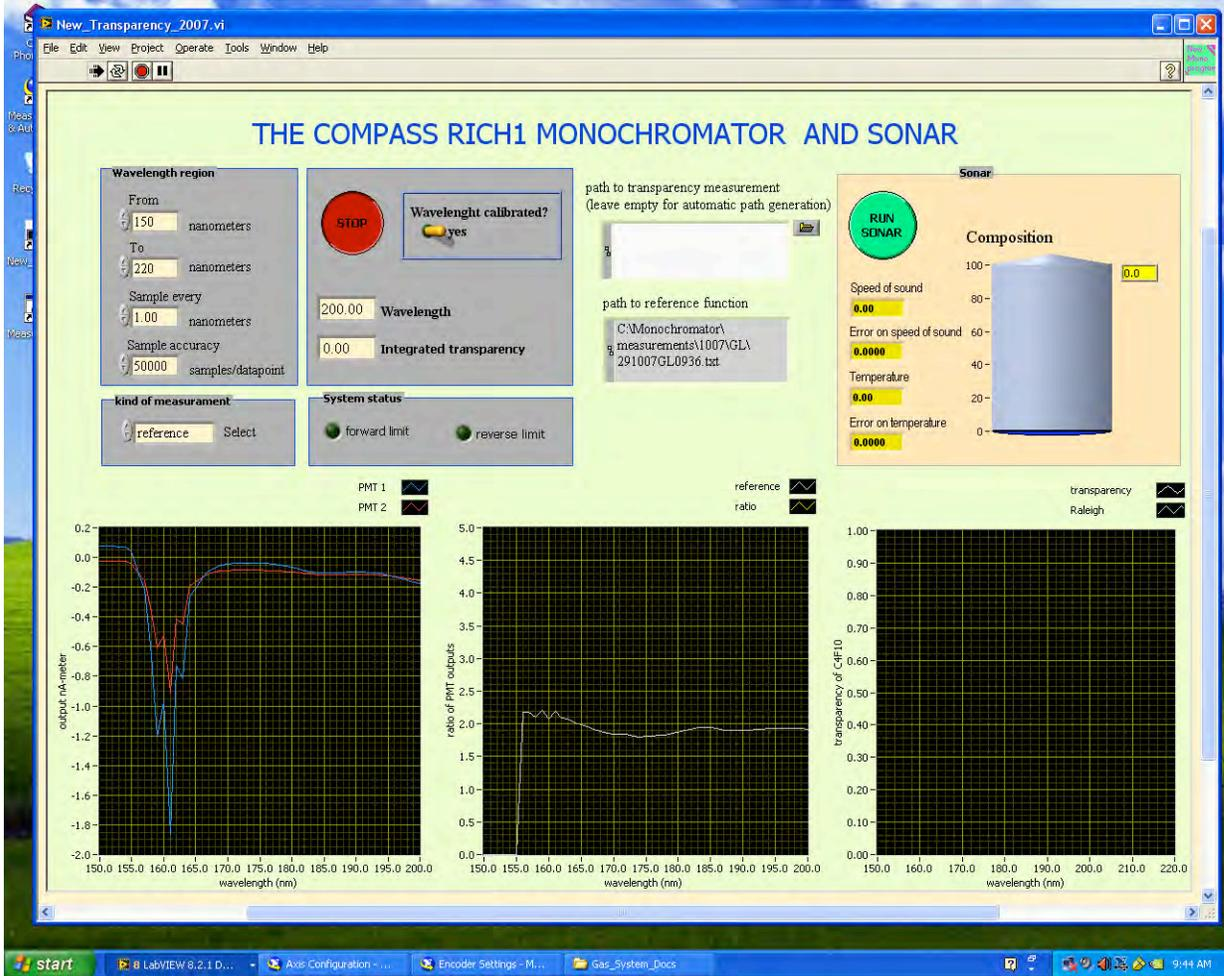

Figure 4.4: Reference measurement of the Monochromator System.
The N₂ gas is used to perform the reference measurement. This special procedure integrates the sigma value of the gas. The measurement values of PMT1 and PMT2 are plotted in the main interface and saved in a disc file (see section 4.5). The Figure. 4.4 gives a view of the results of a standard reference measurement of the system using N₂ gas. The peak at 160 nm is shown in the first plot.
This file was written on March 6th at 10:33 a.m. Its complete path, as you see in the dialog window in figure 4.4 is:
- 1.- press the red **STOP** button of the application program as is shown in figure 4.4